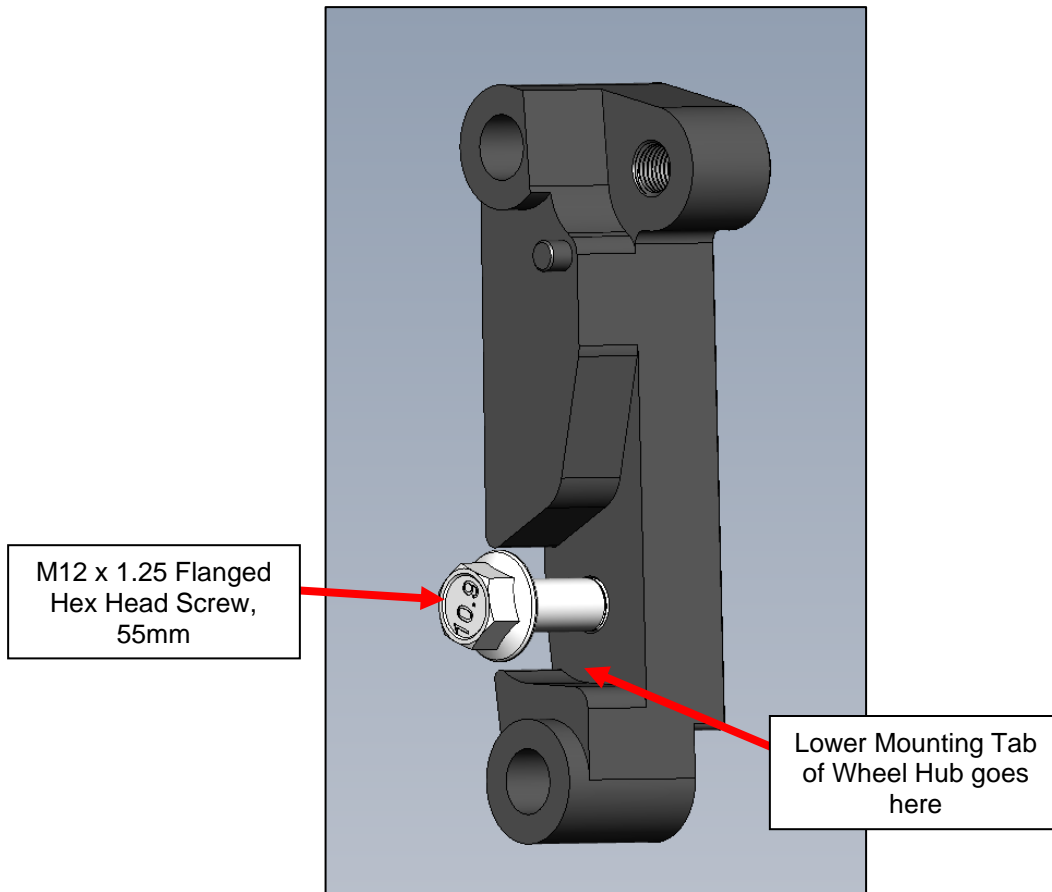

Figure 5
12. Locate the Front Left Adapter Main, Front Left Adapter Secondary, (1) one M12 x 1.25 Flanged Hex Head Screw, 55mm and (1) one M12 x 1.25 Hex Head Screw, 80mm. Position the Front Left Adapter Main onto the inboard side of the OE Caliper Mounting Points. Secure the lower mounting point with the M12 Flanged Hex Head Screw. *Figure 5.*